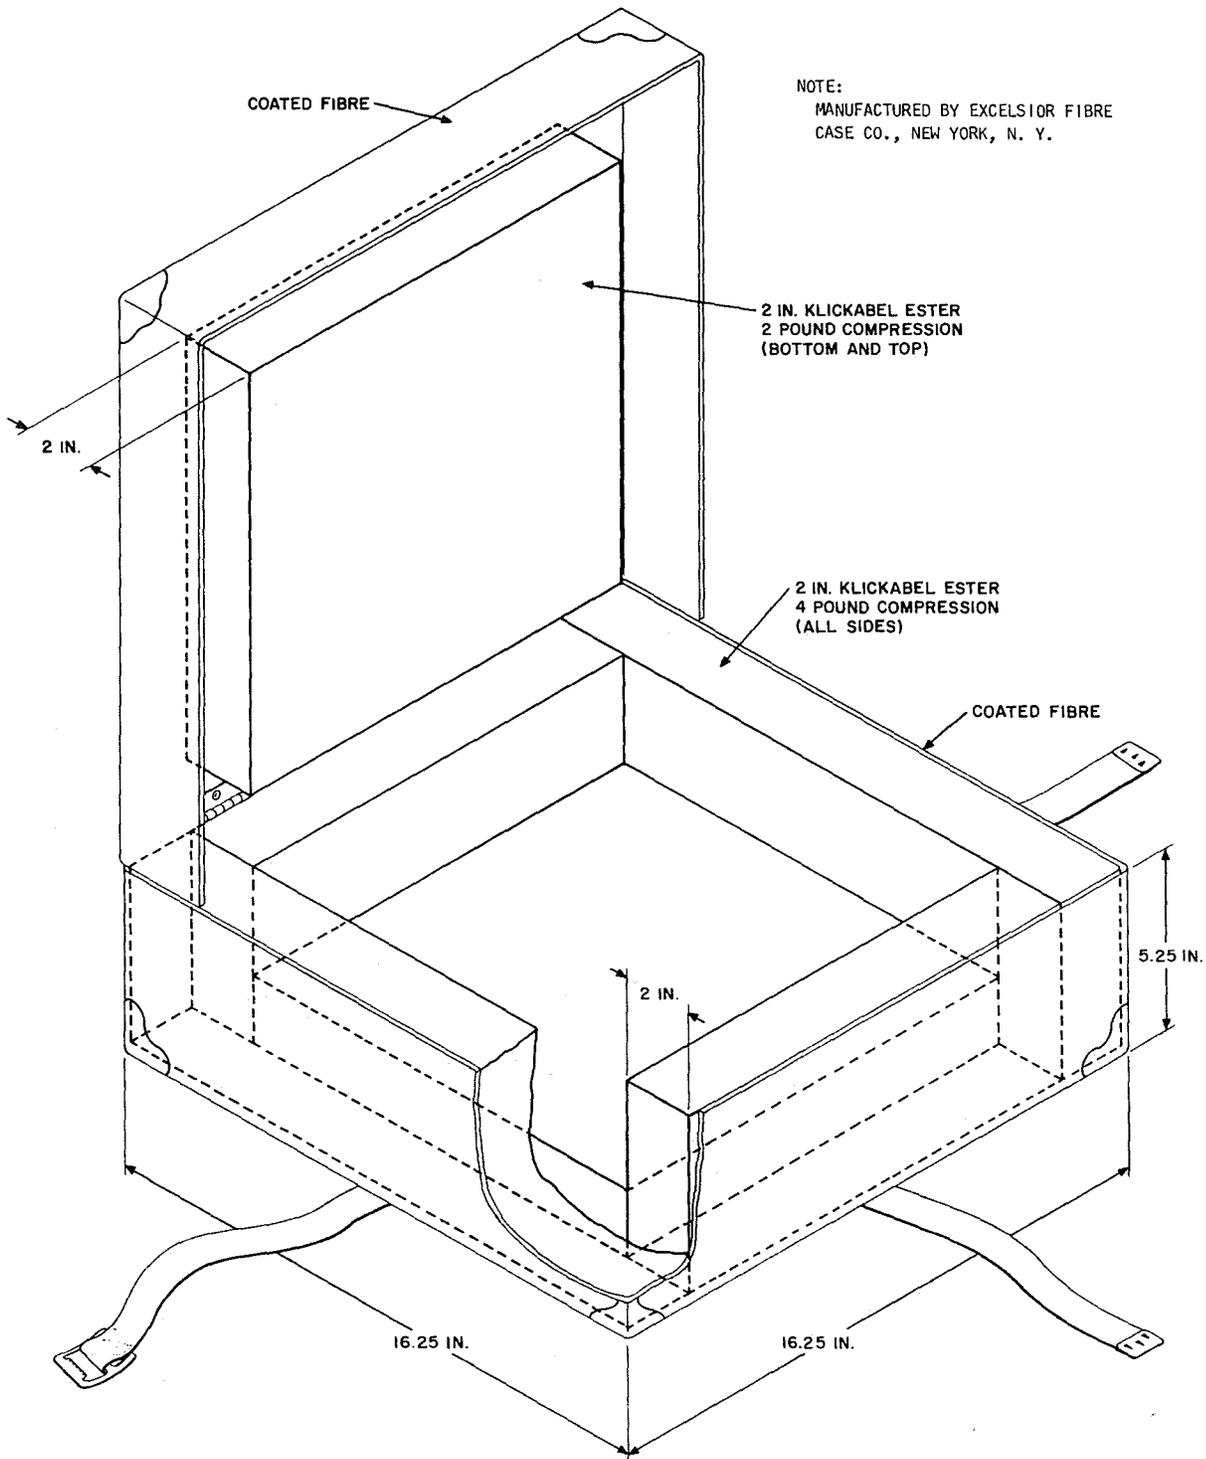

Fig. 8—Recommended Specifications for Shock Protected 10 1/2-Inch Magnetic Tape Reel Shipping Container
8.02 Shipping containers are usually designed for shock protection in moderate shock environment (Fig. 8 and 9). However, containers that are not equipped with internal insulation materials do not guarantee magnetic tape survival in moderate shock environments. Special handling should always be used in conjunction with the shock protection provided by the container because shock can produce permanent errors on a magnetic tape which renders the tape useless for further service.
8.03 A shock test conducted on selected commercially available 10-1/2 inch tape reel canister shipping containers indicated that a shock, such as a 6-foot drop, typically inflicts serious damage to the tape reels and/or tape reel canister. Other test drop distances, such as 4 and 2 feet, can subject the tape, reel, and canister to dangerous effects. Table A shows test results on three commercially available magnetic tape shipping containers using a 2-foot drop as the shock environment. While the drop effects are indicated in Gs (acceleration due to gravity), the relative capability to damage the shipping container and contents by shock is represented by the G values. The lower G values of container C are explained by the particular container design using a limited amount of internal insulation material, such as shown in Fig. 8 and 9.